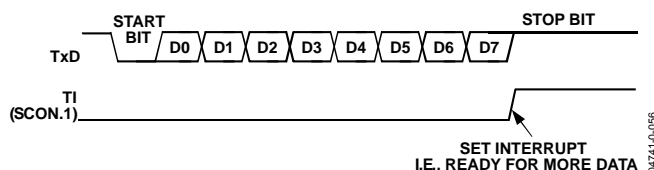

Figure 77. 8-Bit Variable Baud Rate
Transmission is initiated by a write to SBUF. Next a stop bit (a 1) is loaded into the 9th bit position of the transmit shift register. The data is output bit-by-bit until the stop bit appears on TxD and the transmit interrupt flag (TI) is automatically set as shown in Figure 77.